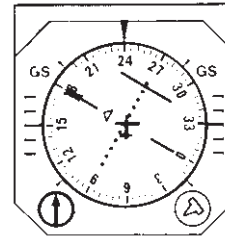

Figure 17-50
50. Refer to figure 17-50. In which direction is the aircraft located in relation to the VORTAC?